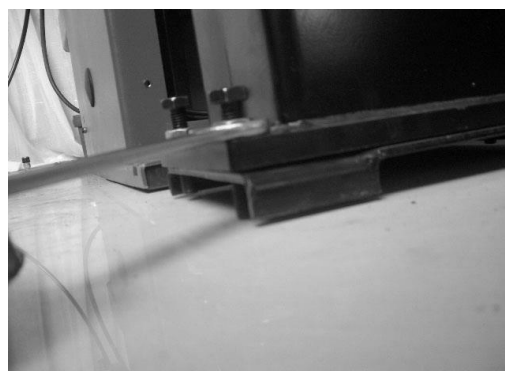

FIG 38
6.1.9 Loose the nut below the base and turn the screw clockwise until it against the ground and tight ( FIG38 ) and install The side panel and tool box removed in the 6.1.1. At this moment, the installation of the left assistant completed.